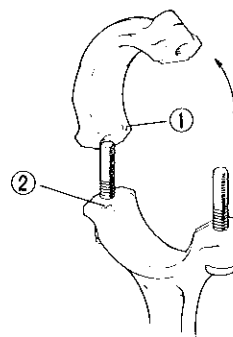

Fig. 4-113
Two stoppers **①** **②**, Fig. 4-113 determine the position of each big-end bearing cap relative to the big end. At the time of installing these caps, be sure to locate stopper **①** of cap in the direction of stopper **②**.